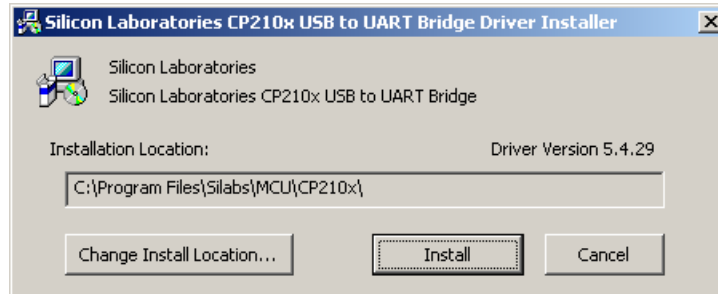

Figure 11
- Upon clicking **Finish**, the Installation Procedure will continue with the installation of the hardware devices. The first of these required hardware devices is the 6300GE Interface Box. The 6300GE Interface Box utilizes a device manufactured by Silicon Laboratories that requires drivers to be installed onto the FREEDOM Tool laptop. A figure similar to Figure 11 will appear allowing the user to install the drivers for the Silicon Laboratories part.